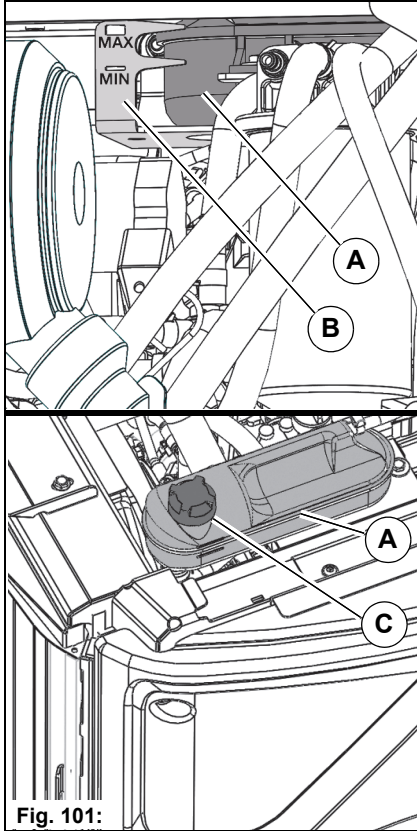

Fig. 101:
Check the coolant level in the expansion tank **Fig. 101-A** daily and refill as required.
The coolant level of the expansion tank **Fig. 101-A** must be between the upper and lower mark **Fig. 101-B** when the engine has cooled down.
4. Unscrew the cap **Fig. 101-C** carefully step by step from the expansion tank.